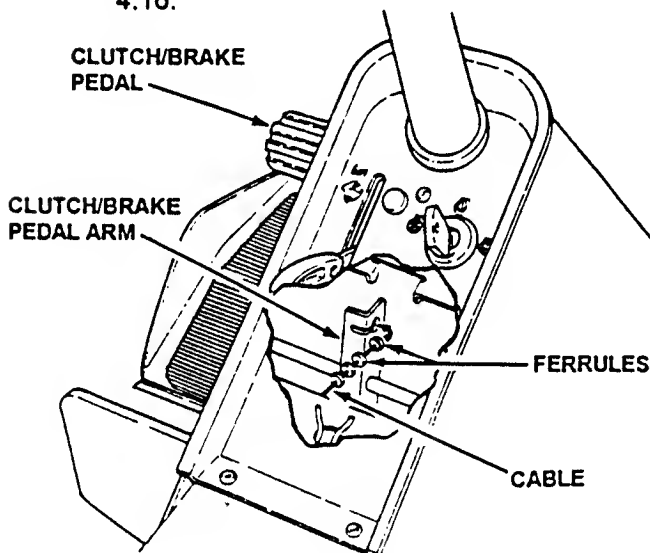

FIGURE 4.16
6. Pull clutch/brake pedal towards operator's seat and slide one additional ferrule toward end of cable through the eye in the clutch/brake pedal arm. See Figure 4.16.